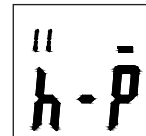

Fig. 3
4. Press the **SETUP** button a third time (see Fig. 3).